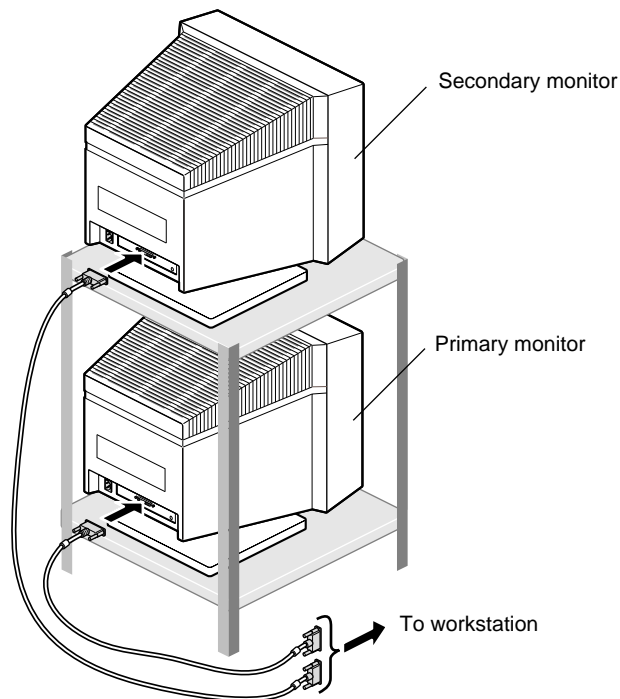

Figure 2-4 Placing the Secondary Monitor Above the Primary Monitor
2. Connect one end of each monitor signal cable to the connector on the back of each monitor, as shown in Figure 2-4. Connect and tighten the thumbscrews on both sides of the connectors.